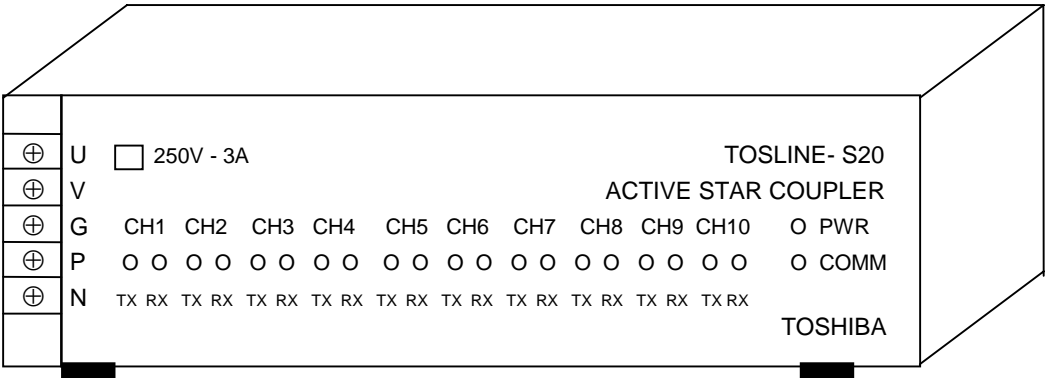

Figure 2.1 Exterior view
Figure 2.1 shows the exterior of the Active Star Coupler. There are 10 sets of Transmit (TX) and Receive (RX) ports. Also, rubber feet are used on the bottom of the device.